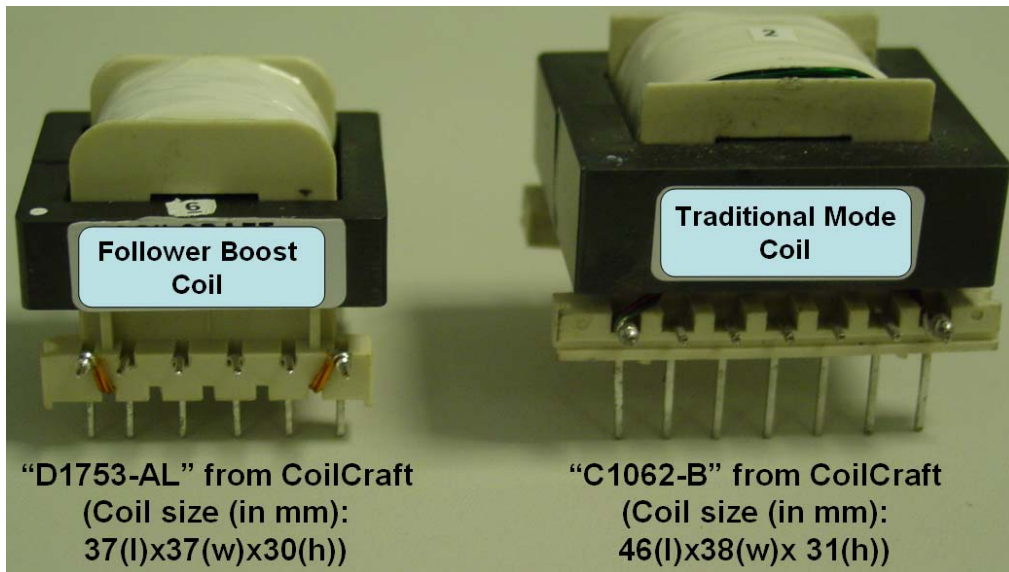

Figure 4. CoilCraft Coils used for the Comparison
- The expression of the current ripple: $\frac{V_{in}}{L \cdot f} \cdot \left(1 - \frac{V_{in}}{V_{out}}\right) = \frac{V_{in}}{L \cdot f} \cdot d$ shows that the coil current ripple is proportional to the duty cycle and hence, that the follower boost tends to decrease it. You immediately understand that the follower boost allows the use of a smaller inductor for the same specified ripple. Given that in practice, the coil inductance is chosen high enough to limit the AC component of the current to an acceptable level, *the Follower Boost mode lowers the size and the cost of your coil.* Figure 4 portrays this benefit in a 300 W, wide mains application.
¹ $(R_{CS2})_T$ is the value that the Excel spreadsheet (available on the web to help dimension the PFC stage – refer to reference [3]) automatically returns if the value entered in the “VoutLL” cell equates that of the “Vout” one (see Table 1 and Figure 4).